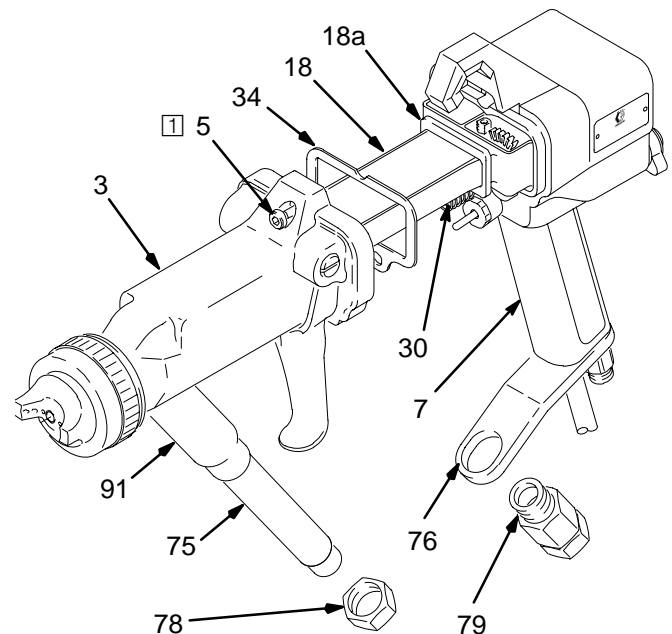

Fig. 28
1. Clean and dry the inside of the fluid inlet tube (75). See Fig. 28.
2. Be sure the gaskets (34, 18a) and spring (30) are in place. Replace the parts if they are damaged.
3. Place the barrel (3) over the power supply (18) and onto the gun handle (7). Make sure the fluid needle spring (30) is seated properly, and align the fluid inlet tube (75) with the bracket port. Slide the nut (78) onto the end of the fluid inlet tube.
4. Tighten the three screws (5) oppositely and evenly with the ball-end wrench (63). Tighten the cap screws to 18 in-lbs (2 N•m) maximum (about a half turn past snug). Do not over-tighten the screws.